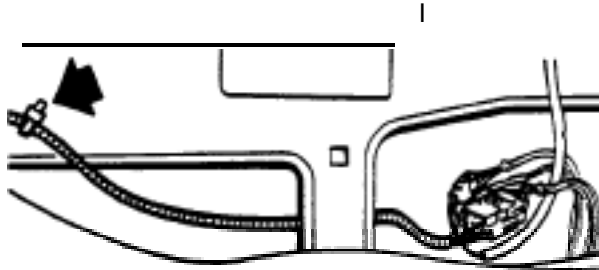

Figure 13. Installing Stud on Cable Tie
13. Install the cable tie with stud, 85 52 663 on the wiring harness and secure it in place (see Figure 13).
14. Reconnect the leads in the 8-pin and 2-pin connectors. Plug the connectors together (see Figure 13).